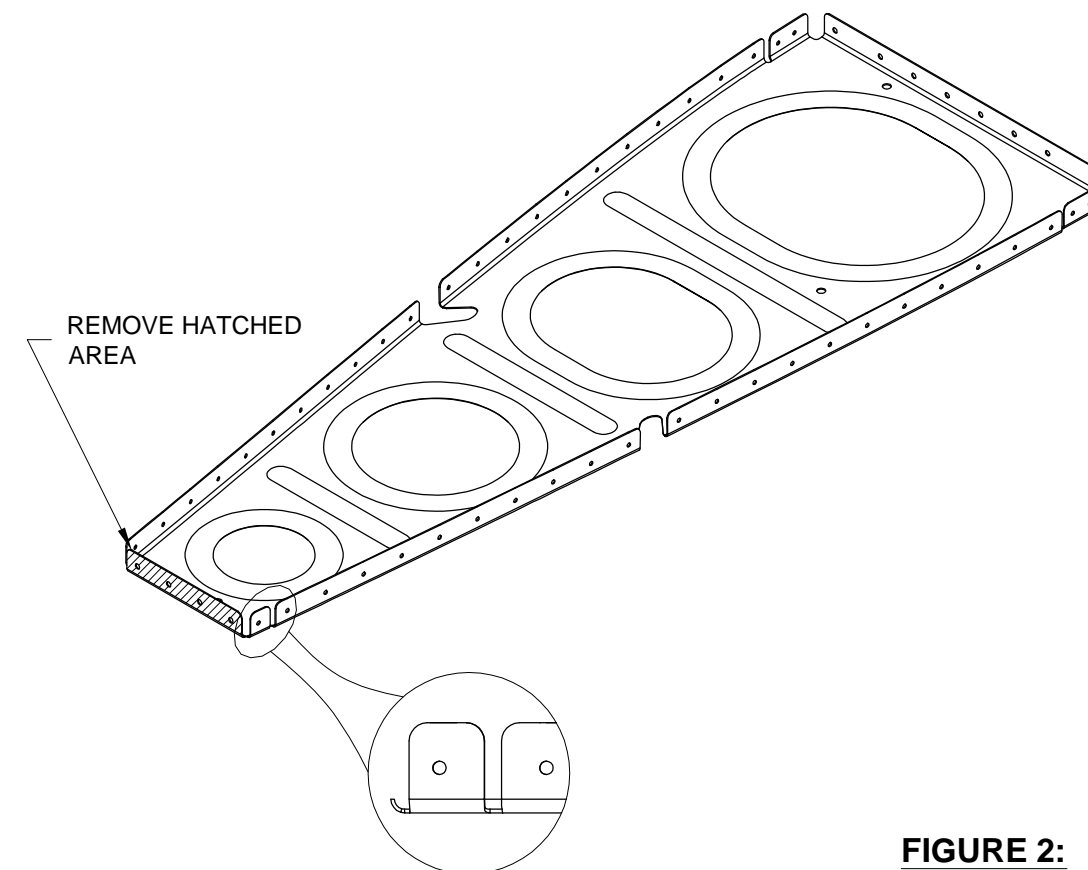

FIGURE 2:
Step 3: Remove the aft flange but not the flange radius from one W-1012-R Outboard Wing Rib as shown in Figure 2.